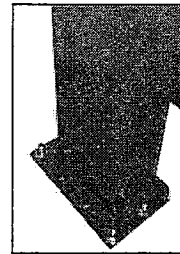

Fig. 16
10. Check all the dimensions of the column bases. If OK, anchor another column either.(Fig16)